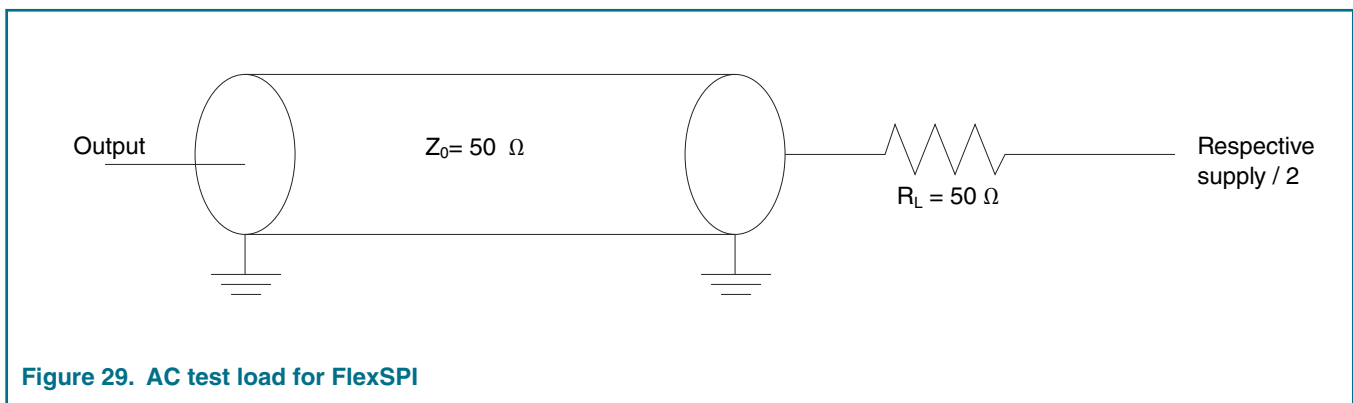
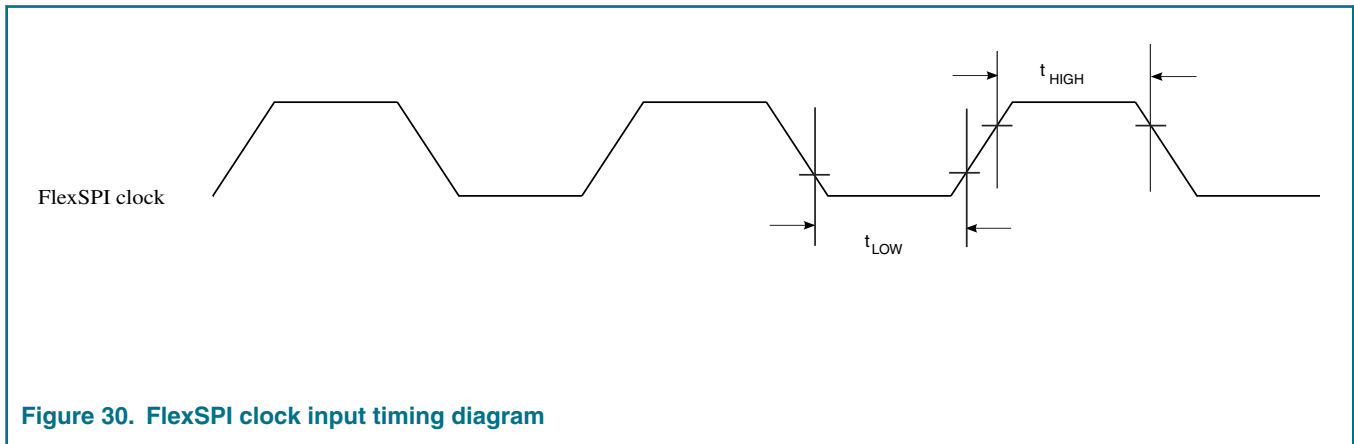
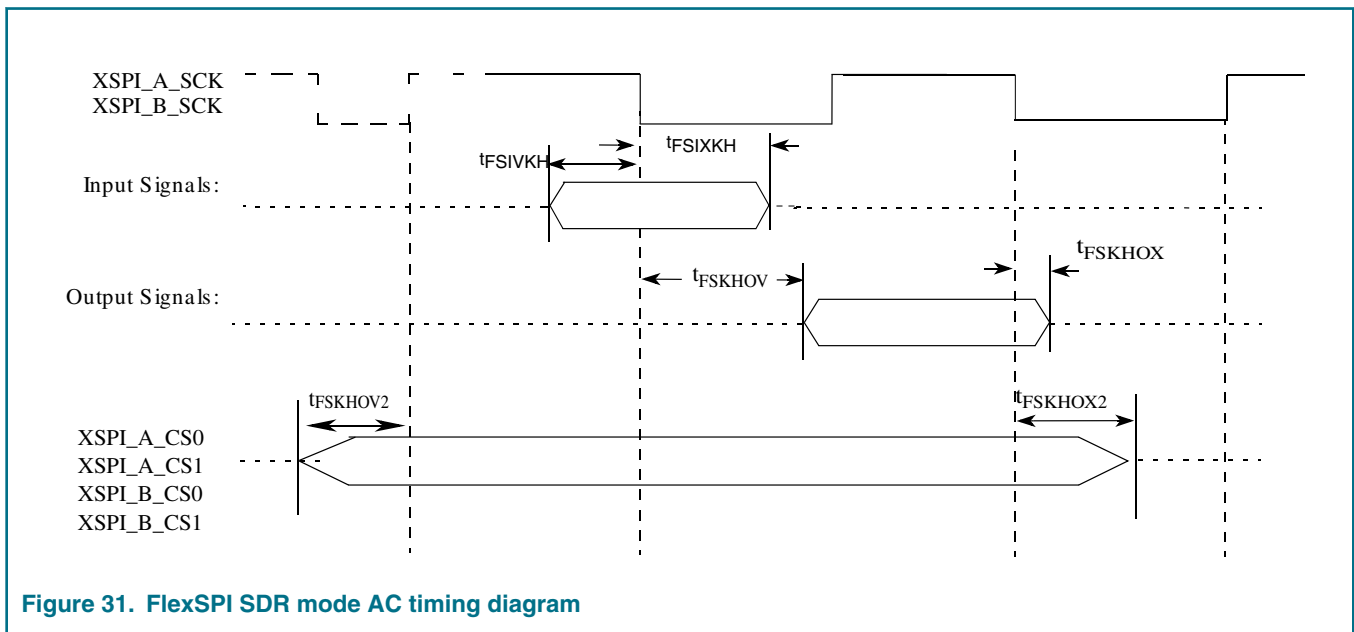
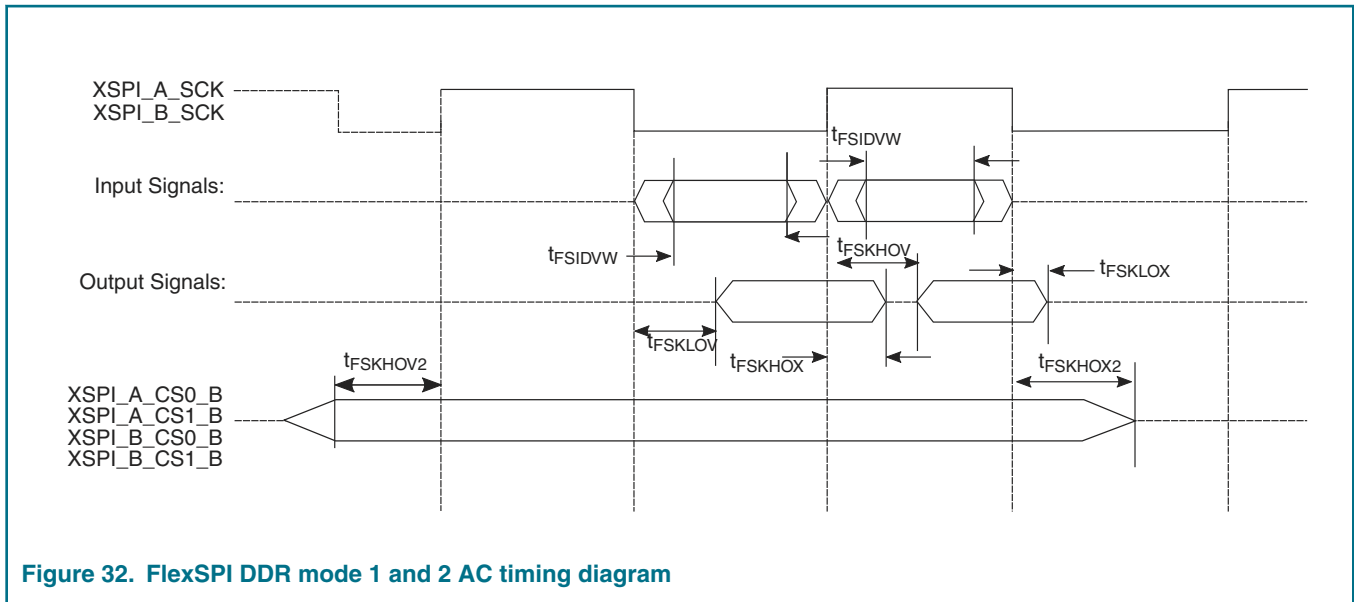

Figure 29. AC test load for FlexSPI
Figure 30. FlexSPI clock input timing diagram
Figure 31. FlexSPI SDR mode AC timing diagram
Figure 32. FlexSPI DDR mode 1 and 2 AC timing diagram
2. See Figure 29. on page 109.
3. See Figure 30. on page 110.
4. See Figure 31. on page 110.
1. Refer Flash Control Register 1 (FLSHxyCR1) in QorIQ LS1028ARM for more details, where x: A or B, y: 1 or 2. 2. See Figure 29 . on page 109. 3. See Figure 30 . on page 110. 4. See Figure 31 . on page 110.
1. Refer Flash Control Register 1 (FLSHxyCR1) in QorIQ LS1028ARM for more details, where x: A or B, y: 1 or 2. 2. For DDR, Unit Interval (UI) is half of period. For example, 5 ns for 100 MHz 3. See Figure 29 . on page 109. 4. See Figure 30 . on page 110. 5. See Figure 32 . on page 111.
4. See Figure 32. on page 111.